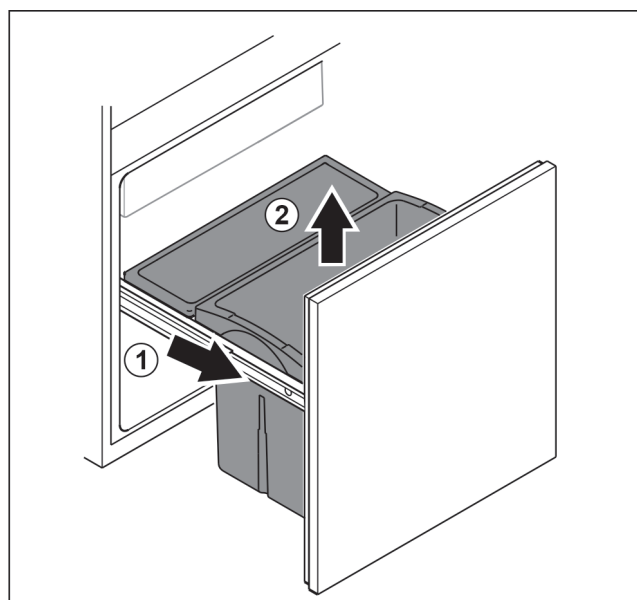

Fig. 101
- ▶ Remove the pull-out unit as far as it will go. Fig. 101 (1)
- ▶ Remove drawer upwards. Fig. 101 (2)